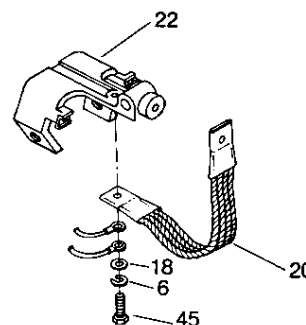

Figure 6
2. Disconnect the arc chute wires by removing the hex head cap screw (45), washer (18), lockwasher (6), arc chute wires and shunt (20).
4. Remove the arc chute by removing hex head nut (16), lockwasher (4), hex head cap screw (43) and the arc chute.
7. Reconnect arc chute wires (Fig. 6) and shunt, using the washer, lockwasher and hex head cap screw.
1. With all power removed, disconnect the bottom end of the shunt (20) by removing hex head cap screw, lockwasher, washer, arc chute wires and shunt.
2. Disconnect the top end of the shunt (20) by removing hex head nut, lockwasher, washer and the shunt.
3. Check that auxiliary arm pin (26) is centered and set screw (17) is tight.
5. Connect the bottom end of the shunt by replacing the shunt, arc chute wires, washer, lockwasher and hex head cap screw (Fig. 6).